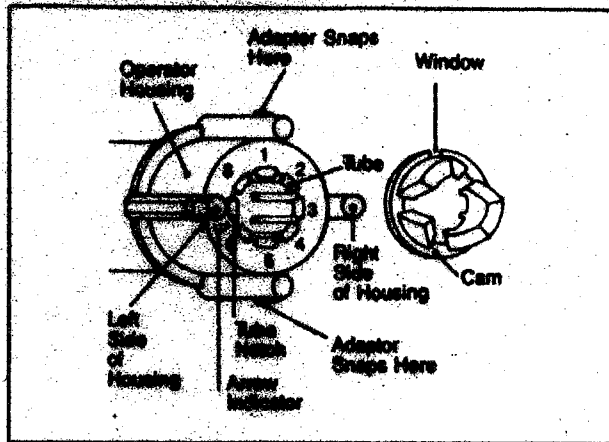

Fig. 5 Cam Installation
2. Rotate the operator's handle counterclockwise until the "arrow indicator," between 6 and 7, on the bottom of the operator housing lines up with the notch in the tube. See Fig. 5.
into place. The cylindrical posts on the adaptor are used in locating the contact blocks, and should be positioned on the left and right side of the operator housing as shown in Fig. 5. (Note - PB2 devices do not have an adaptor, the cam is a snap fit onto the bottom of the operator housing.)